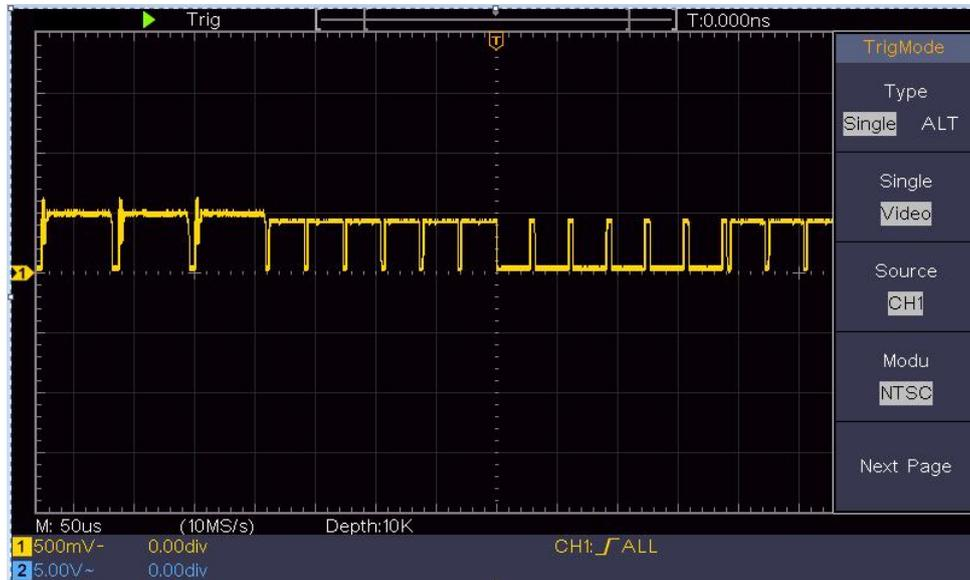

Figure 6- 7 Waveform Captured from Video Field Trigger
- (6) In the right menu, press **Next Page**, select **Sync** as **Field**.
- (7) Turn the **Vertical Scale**, **Vertical Position** and **Horizontal Scale** knobs to obtain a proper waveform display (see *Figure 6- 7*).